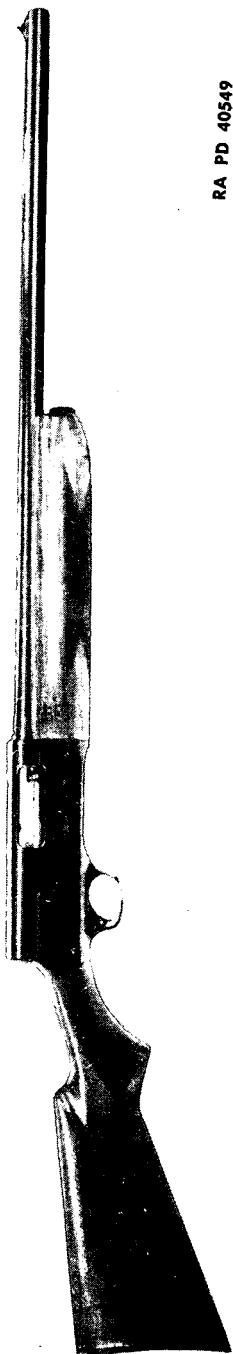

Figure 99—Right Side View—Sporting Skeet Type—Remington Shotgun, Sportsman
(1) Name of maker, gage size, and chamber length are stamped on the left side of the barrel near the rear end, and the serial number of the gun on the rear end of the barrel guide.
(2) The words "THE SPORTSMAN" are engraved on the right face of the breech bolt of this model gun.
(3) The name of maker and serial number of the gun are stamped on the left side of the receiver.
(4) Serial number of gun is stamped on the left face of the receiver tang and trigger plate tang.
c. This gun (figs. 99 and 100) is an autoloading or semiautomatic shotgun, sometimes referred to in error as an automatic shotgun, of the take-down design. This gun is recoil-operated; the force, generated by the expanding powder gas acting against the breech bolt on the recoil movement together with the force generated by the compressed recoil and action springs on the counterrecoil movement, operates the mechanism of the gun to load, feed, extract and eject the shell and cock the hammer. The trigger must be pulled each time to fire the gun.
(1) The riot-type gun is usually furnished with a 20-inch plain barrel, bored full cylinder. Autoloading type guns are not equipped with bayonet attachments.
(2) The sporting skeet-type gun (figs. 99 and 100) is usually furnished with a 26-inch plain or ribbed barrel, bored improved cylinder.
(3) The sporting trap-type gun is similar to the skeet-type gun but is furnished with a 30-inch barrel, bored full choke.